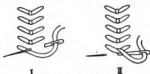

FIGURE 33
*Bow Stitch or Deerfield* (Figure 33). — Starting at the left of the design with the thread held under the left thumb, insert the needle on the right side of the first stitch and bring it through the cloth halfway back toward the place where the thread came out on the left, and a little below